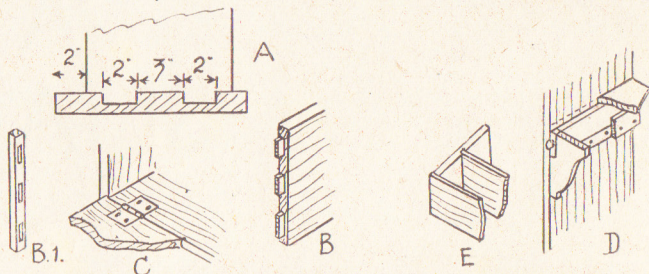

Fig. 2—Details of various joints, hinging, etc., in construction
Cut the two feet from 1in. by $1\frac{1}{2}$ in. wood. The bottom ends of the sides will be cut to form two tenons, as in detail (A) Fig. 2, each 2ins. long and separated 3ins. apart. Make the tenons